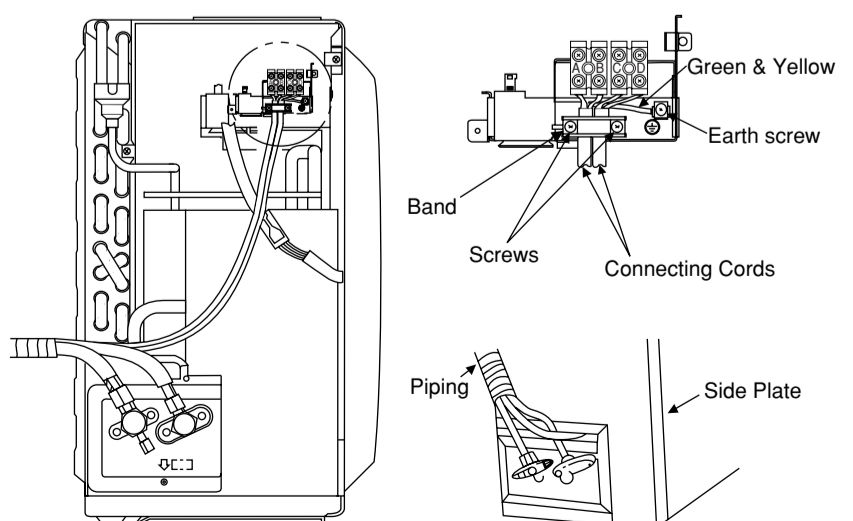

Fig. 3-23
- (2) Connect the connecting cords to the terminal board. (Fig. 3-23)
- (3) Fix the connecting cords with the bands certainly. (Fig. 3-23)